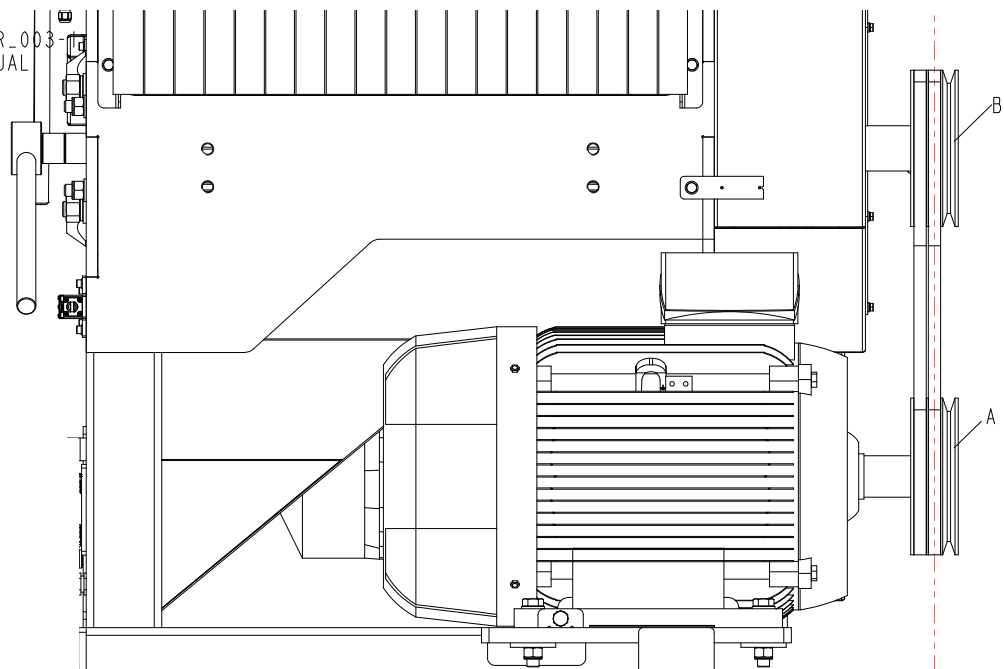

FIG. 3-34
See Figure 3-34 Be sure that motor pulley (A) and arbor pulley (B) are in line.